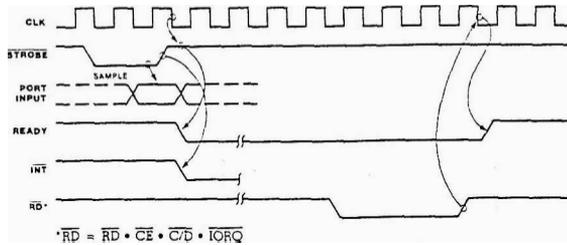

Figure 15. Mode 1 Input Timing
**Input Mode (Mode 1).** When **STROBE** goes Low, data is loaded into the selected port input register (Figure 15). The next rising edge of strobe activates **INT**, if Interrupt Enable is set and this is the highest-priority requesting device. The following falling edge of **CLK** resets Ready to an inactive state, indicating